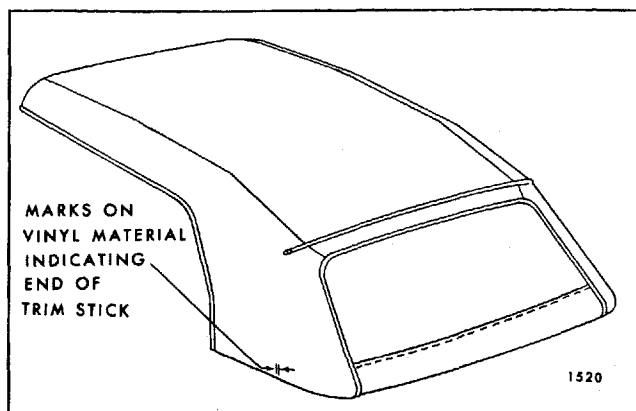

Fig. 6-36—Marking Top Material
21. Using a pencil, mark both ends of rear and rear quarter trim sticks on vinyl surface of top material as shown in Figure 6-36. Reference marks for trim sticks should be transferred to new top material when step 8 of installation procedure is performed.